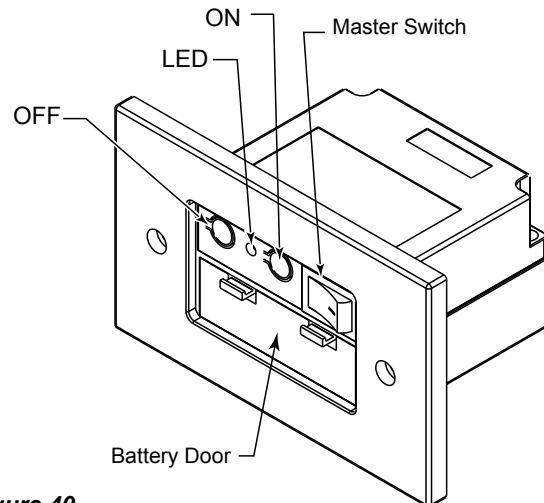

Figure 40
4. During the 10 seconds, press the OFF button on the transmitter to learn. Another two beeps will confirm success. Figure 40